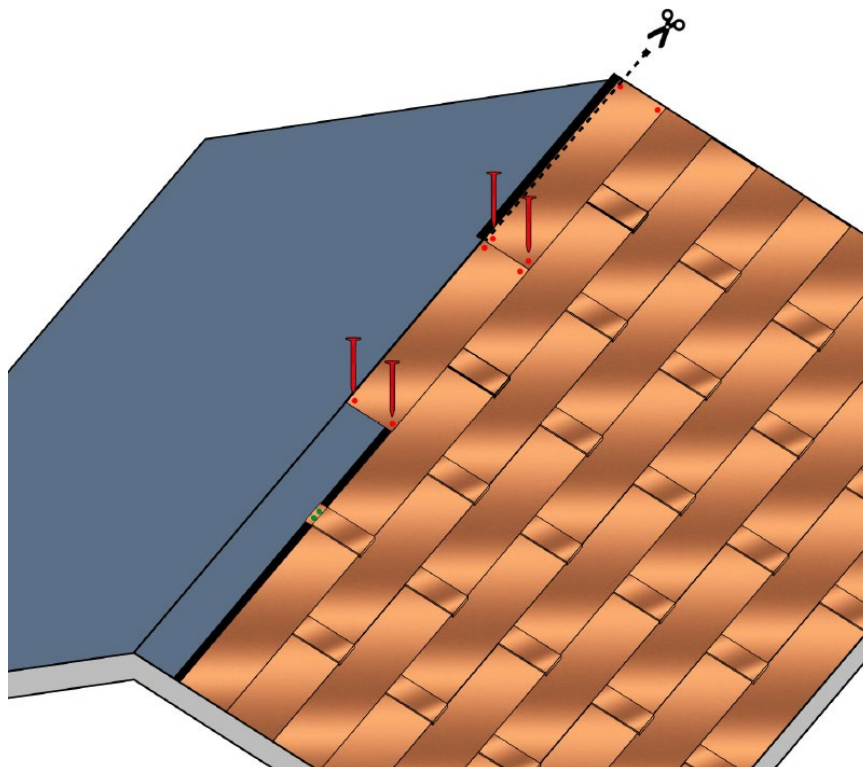

Fig. 12 - Shingles installation at the ridge
- The last row of bituminous shingles must protrude above the ridge line; the excess part will be cut along the ridge - Fig. 12.